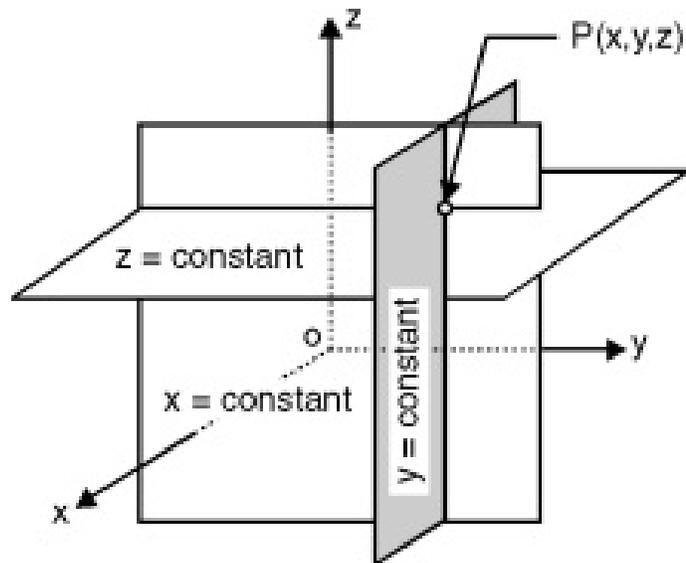

Fig. 6.1.2 : Point is defined by three planes
- Consider, $x = \text{constant}$ and $y = \text{constant}$ planes. These two vertical planes intersect and the intersection is a vertical line. To obtain a point take the third plane, i.e. $z = \text{constant}$ plane i.e. horizontal plane. The vertical line and horizontal plane intersects and the intersection is a point [point P in Fig. 6.1.2].